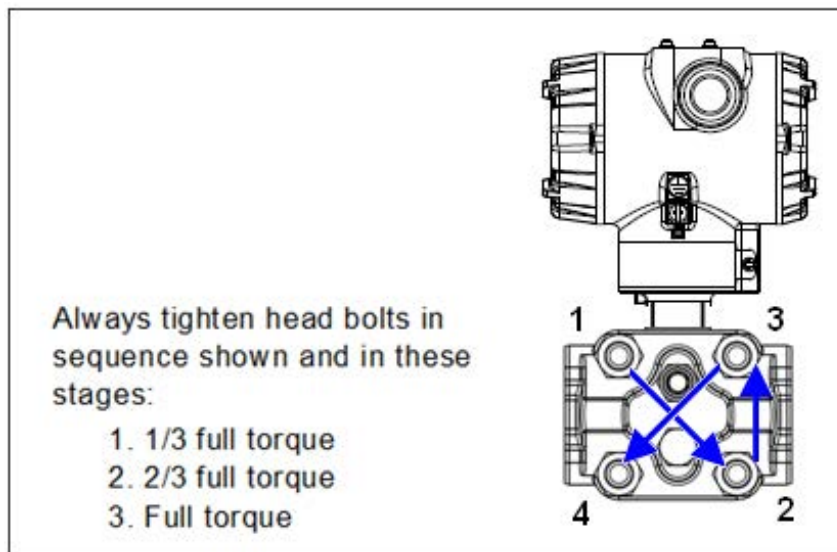

Figure 22 – Head Bolt Tightening Sequence
4. Loosen the nuts in the sequence shown in Figure 22.
12. Using a torque wrench, gradually tighten the nuts in the sequence shown in Figure 22. Tighten head bolts in stages of 1/3-full torque, 2/3-full torque, and full torque. See Table 19 for torque requirements versus transmitter type and model.